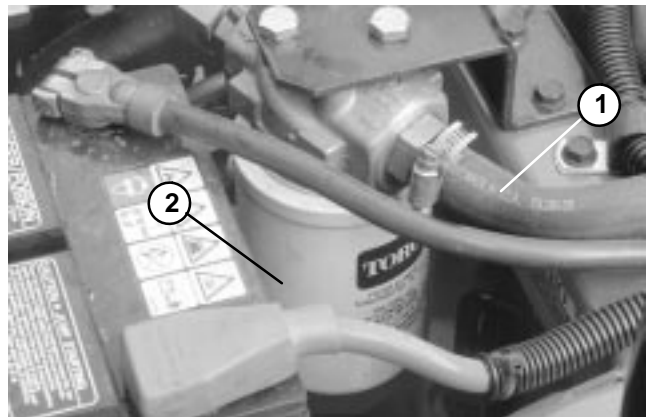

Figure 32
E. If the oil cooler is **not** installed, disconnect hydraulic hose from the hydraulic oil filter (Fig. 32).